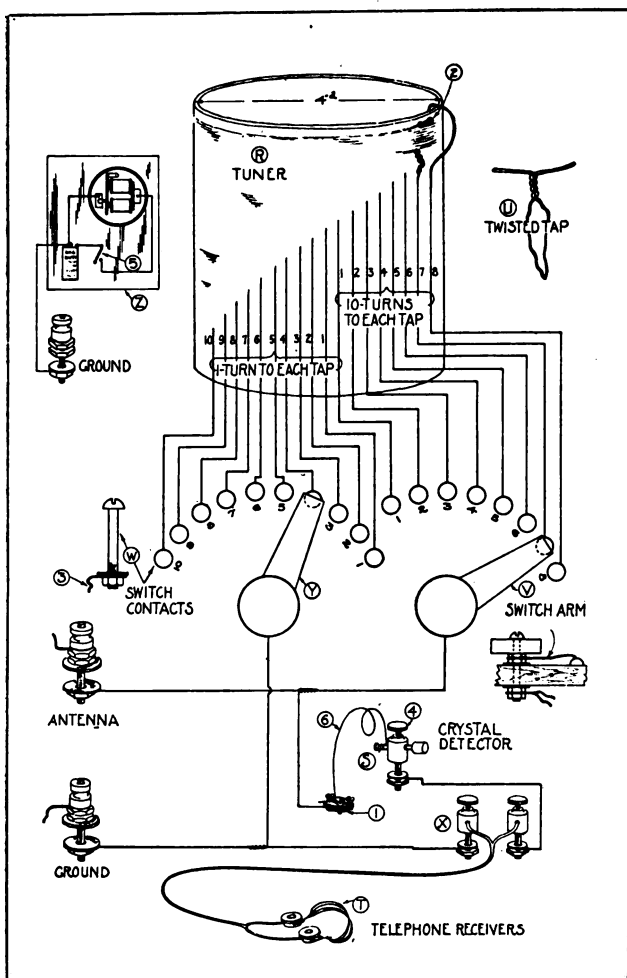

Fig. 3.—Constructional details of the simple radio receiving set designed by the U. S. Bureau of Standards for the use of laymen.
Tuner (R, Fig. 3)—This is a piece of cardboard or other non-metallic tubing with turns of copper wire wound around it. The cardboard tubing may be an oatmeal box. Its construction is described in detail below.
Crystal Detector (S, Fig. 3)—The construction of a crystal detector may be of very simple design and quite satisfactory. The crystal, as it is ordinarily purchased, may be unmounted or mounted in a little block of metal. For mechanical reasons the mounted type may be more satisfactory, but that is of no great consequence. It is very important, however, that a very good tested crystal be used. It is probable also that a galena crystal will be more satisfactory to the beginner.
The crystal detector may be made up of a tested crystal, three wood screws, short pieces of copper wire, a nail, set screw type of binding post, and a wood knob or cork. The tested crystal is held in position on the wood base by three brass wood-screws as shown at I Fig. 3. A bare copper wire may be wrapped tightly around the three brass screws for contact. The assembling of the rest of the crystal detector is quite clearly shown in Fig. 3.
Phone (T, Fig. 3)—It is desirable to use a pair of telephone receivers connected by a head band, usually called a double telephone headset. The telephone receivers may be any of the standard commercial makes having a resistance of between 2000 and 3000 ohms. The double telephone receivers will cost more than all the other parts of the station combined but it is desirable to get them, especially if one plans to improve his receiving set later. If one does not care to invest in a set of double telephone receivers a single telephone receiver with a head band may be used; it gives results somewhat less satisfactory.
Tuner—See R. Fig. 3. Having supplied one's self with a piece of cardboard tubing 4 inches in diameter and about $\frac{1}{2}$ pound of No. 24 (or No. 26) double cotton covered copper wire, one is ready to start the winding of the tuner. Punch two holes in the tube about $\frac{1}{2}$ inch from one end as shown at 2 on Fig. 3. Weave the wire through these holes in such a way that the end of the wire will be quite firmly anchored, leaving about 12 inches of the wire free for connections. Start with the remainder of the wire to wrap the several turns in a single layer about the tube, tightly and closely together. After *ten* complete turns have been wound on the tube hold those turns snugly while a tap is being taken off. This tap is made by making a 6 inch loop of the wire and twisting it together at such a place that it will be slightly staggered from the first tap. This method of taking off taps is shown quite clearly at U, Fig. 3. Proceed in this manner until six twisted taps have been taken off at every ten turns. After these first seventy turns have been wound on the tube then take off a 6 inch twisted tap for every succeeding single turn until ten additional turns have been wound on the tube. After winding the last turn of wire anchor the end by weaving it through two holes punched in the tube much as was done at the start, leaving about 12 inches of wire free for connecting. It is to be understood that each of the eighteen taps is slightly staggered from the one just above, so that the several taps will not be bunched along one line on the cardboard tube. See Fig. 3. It would be advisable, after winding the tuner as just described, to dip the tuner in hot paraffin. This will help to exclude moisture.
holes for the binding posts, switch arms and switch contacts may first be laid out and drilled. The "antenna" and "ground" binding posts may be ordinary $\frac{1}{8}$ inch brass bolts of sufficient length and supplied with three nuts and two washers. The first nut binds the bolt to the panel, the second nut holds one of the short pieces of stiff wire, while the third nut holds the antenna or ground wire as the case may be. The switch arm with knob shown at V, Fig. 3, may be purchased in the assembled form or it may be constructed from a thin slice cut from a broom handle and a bolt of sufficient length equipped with four nuts and two washers together with a narrow strip of thin brass somewhat as shown. The switch contacts (W, Fig. 3) may be of the regular type furnished for this purpose or they may be brass bolts equipped with one nut and one washer each or they may even be nails driven through the panel with an individual tap fastened under the head or soldered to the projection of the nail through the panel. The switch contacts should be just close enough that the switch arm will not drop between the contacts but also far enough apart that the switch arm can be set so as to touch only one contact at a time.
The telephone binding post should preferably be of the set screw type as shown as X, Fig. 3.
Having constructed the several parts just mentioned and mounted them on the wood base, one is ready to connect the several taps to the switch contacts and attach the other necessary wires. Scrape the cotton insulation from the loop ends of the sixteen twisted taps as well as from the ends of the two single wire taps coming from the first and last turns. Fasten the bare ends of these wires to the proper switch contacts as shown by the corresponding numbers in Fig. 3. One should be careful not to cut or break any of the looped taps. It would be preferable to fasten the connecting wires to the switch contacts by binding them between the washer and the nut as shown at 3, Fig. 3. A wire is run from the back of the binding
post marked "ground" (Fig. 3) to the back of the left-hand switch-arm bolt (Y), thence to underneath the left-hand binding post marked "phones." A wire is then run from underneath the right-hand binding post marked "phones" to underneath the binding post (4, Fig. 3), which forms a part of the crystal detector. A piece of No. 24 bare copper wire about $2\frac{1}{2}$ inches long, one end of which is twisted tightly around the nail (the nail passing through
binding post 4) the other end of which rests gently by its own weight on the crystal (1). The bare copper wire which was wrapped tightly around the three brass wood-screws holding the crystal in place is led to and fastened at the rear of the right-hand switch-arm bolt (V), thence to the upper left-hand binding post marked "antenna." As much as possible of this wiring is shown in Fig. 3.
The Test Buzzer—(Z, Fig. 3)—As mentioned previously, it is easy to find the more sensitive spots on the crystal by using a test buzzer. The test buzzer is used as a miniature local transmitting set. When connected to the receiving set as shown at Z, Fig. 3, the current produced by the buzzer will be converted into sound by the
telephone receivers and the crystal, the loudness of the sound depending on what part of the crystal is in contact with the fine wire. To find the most sensitive spot connect the test buzzer to the receiving set as directed, close the switch (5, Fig. 3) (and if necessary adjust the buzzer armature so that a clear note is emitted by the buzzer), set the right-hand switch arm on contact point No. 8, fasten the telephone receivers to the binding posts marked "phones," loose the set screw of the binding post slightly and change the position of the fine wire (6, Fig. 3) to several positions of contact with the crystal until the loudest sound is heard in the phones, then tighten the binding post set screw (4) slightly.